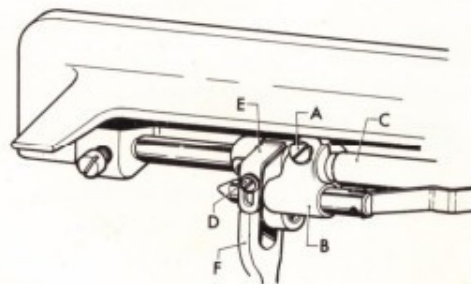

Fig. 2
2. Loosen set screw (A) Fig. 2 and adjust the feed dog by hand moving the drop feed body (B) up or down on feed-lifting shaft (C) until feed dog comes to a height of $\frac{1}{32}$ of an inch.
3. Tighten screw (A) securely.
3. Move feed arm (F) Fig. 2 back or forth for positioning feed dog.